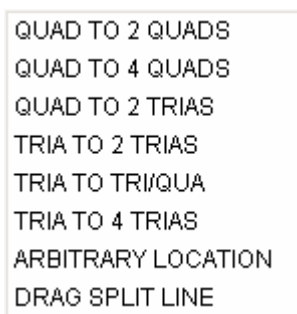

Figure 5.3.19 Shell Split Options
- Click the arrow next to SHELL SPLIT OPTION to access the drop-down menu of options as illustrated in Figure 5.3.19.